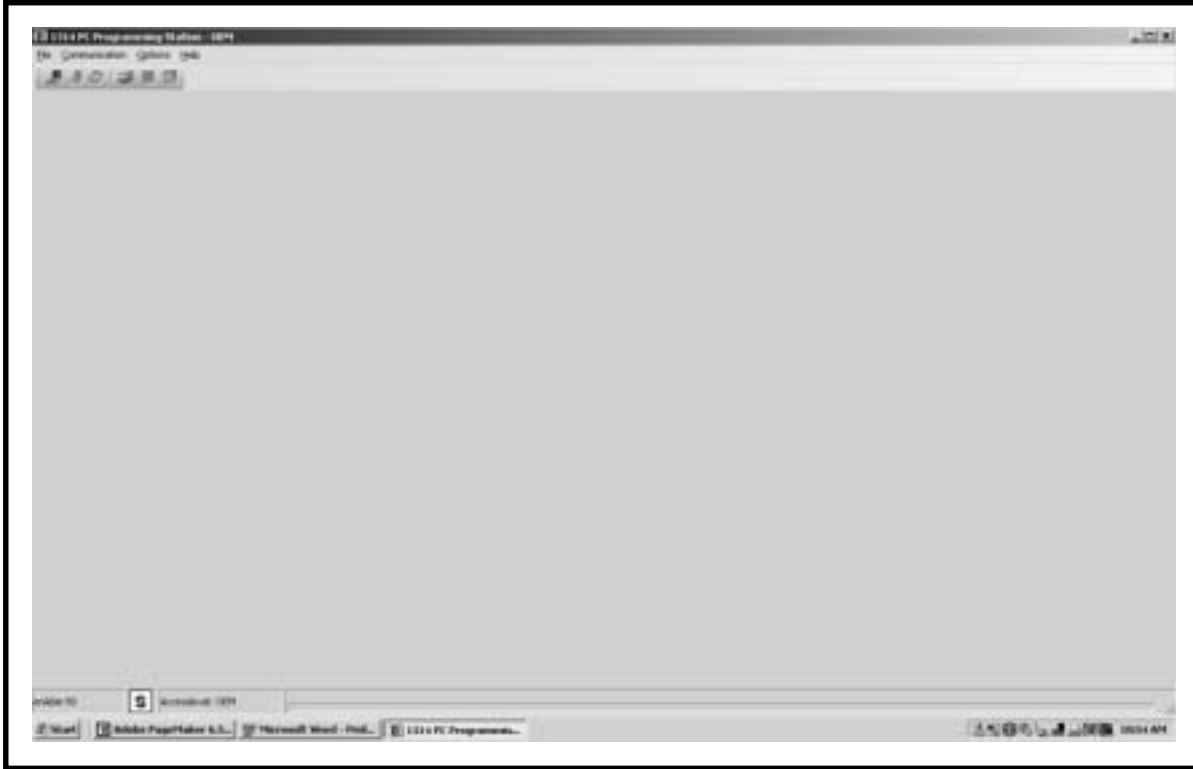

Figure 41. 1314 PCPS Programming Station
2. Open the Q-logic 1314 PCPS programming station. See figure 41.